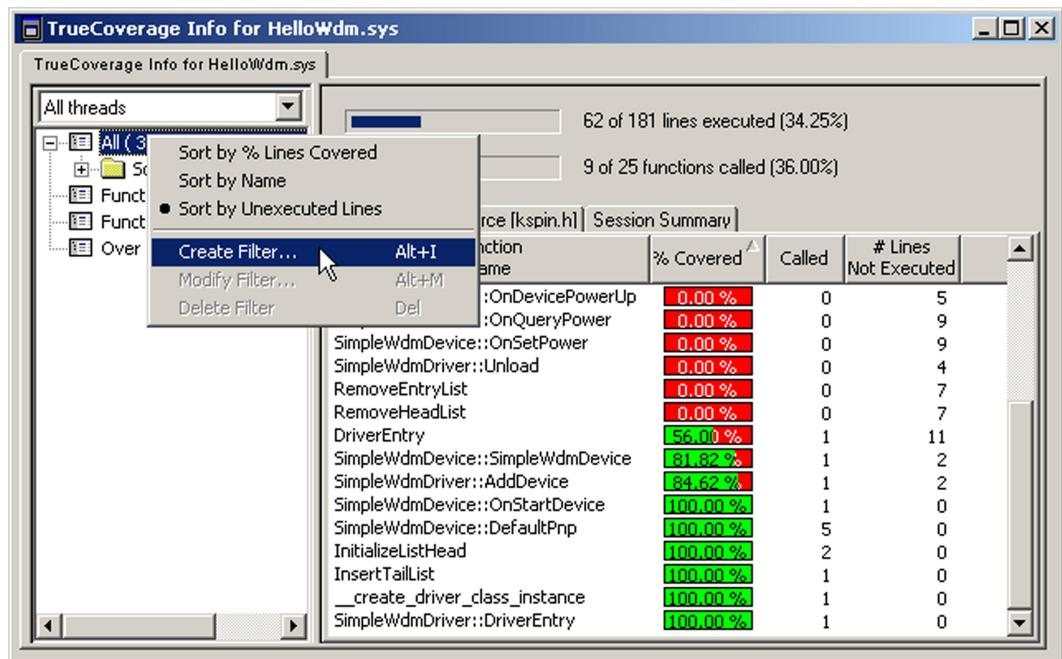

Figure 4-6. Creating a Filter
- 1 Right-click on the Filter pane and select **Create Filter** (Figure 4-6).